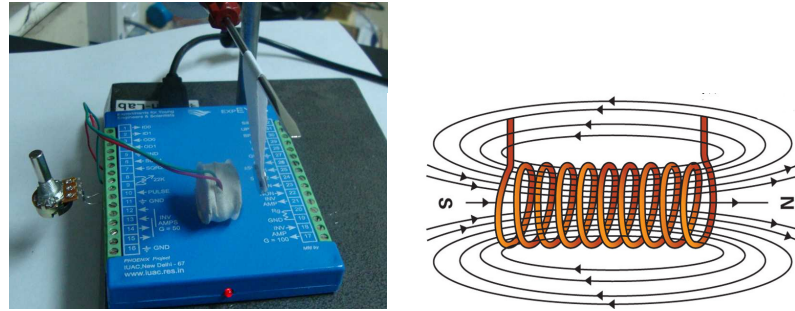

Figure 3.4: (a) Current carrying solenoid repelling a permanent magnet. (b) Magnetic field of a current carrying solenoid
- Hang the pendulum near the solenoid as shown in figure 3.4
The magnetic field of a solenoid coil is shown in figure 3.4. The direction of field depends on the direction of the current.